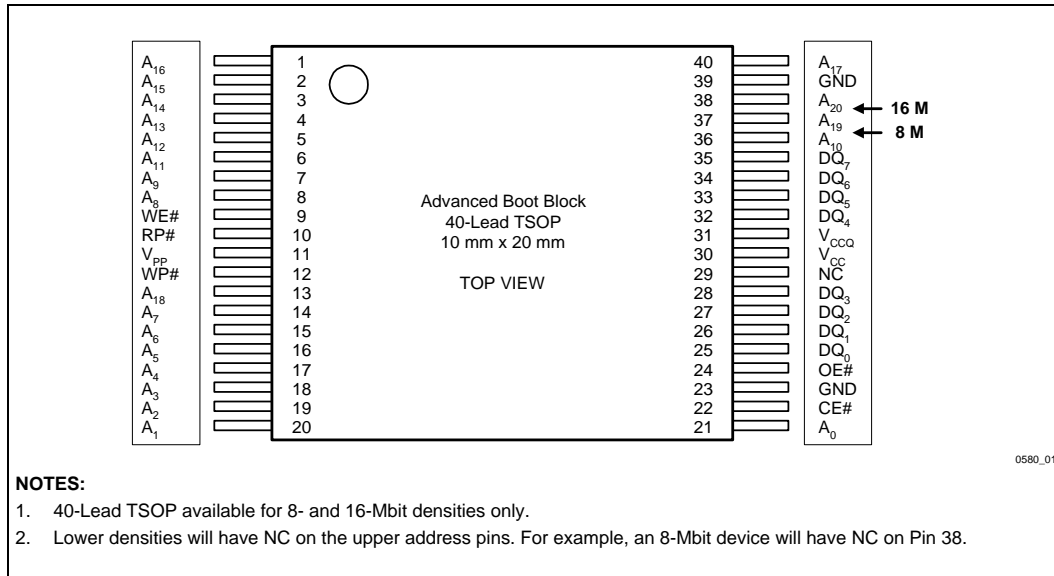
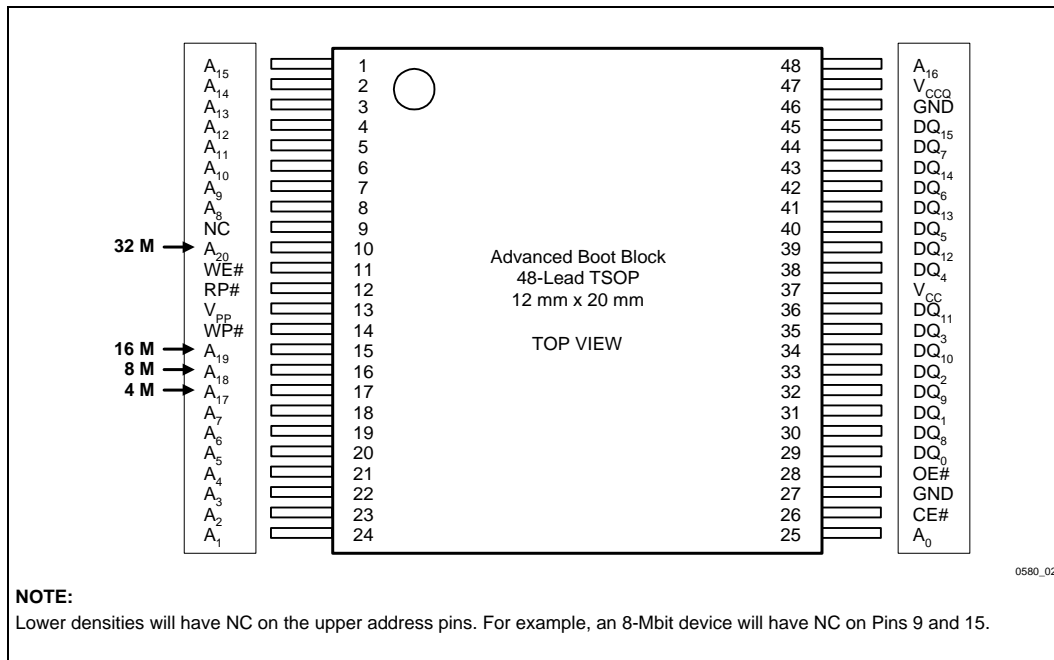
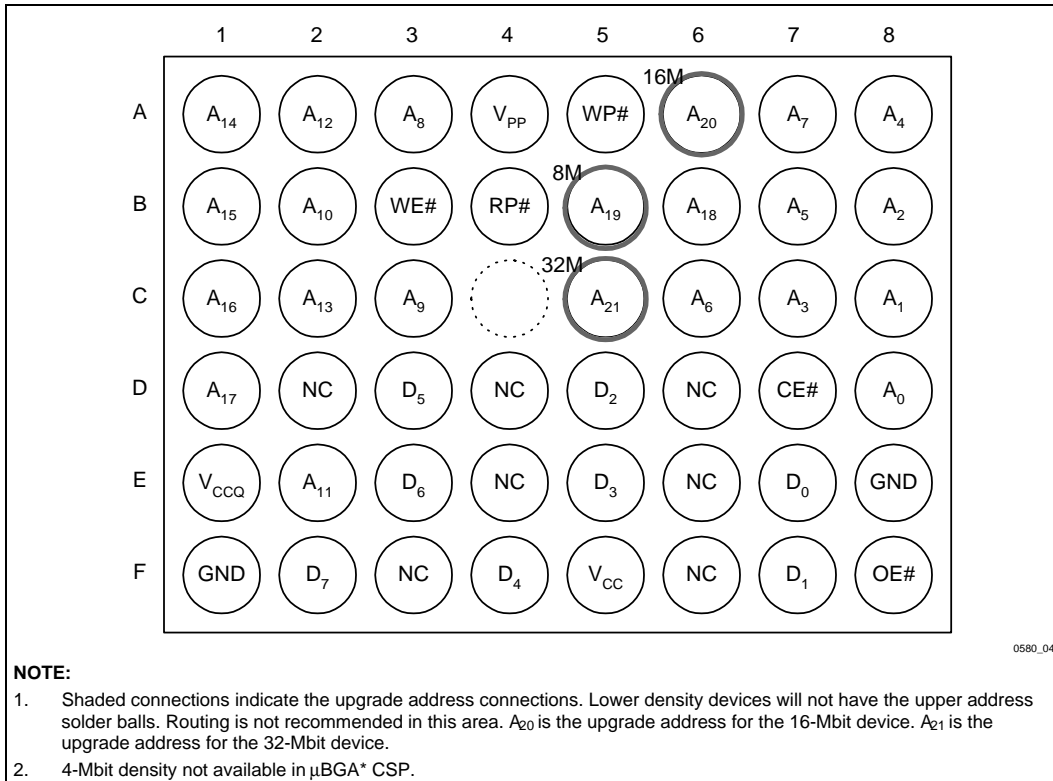
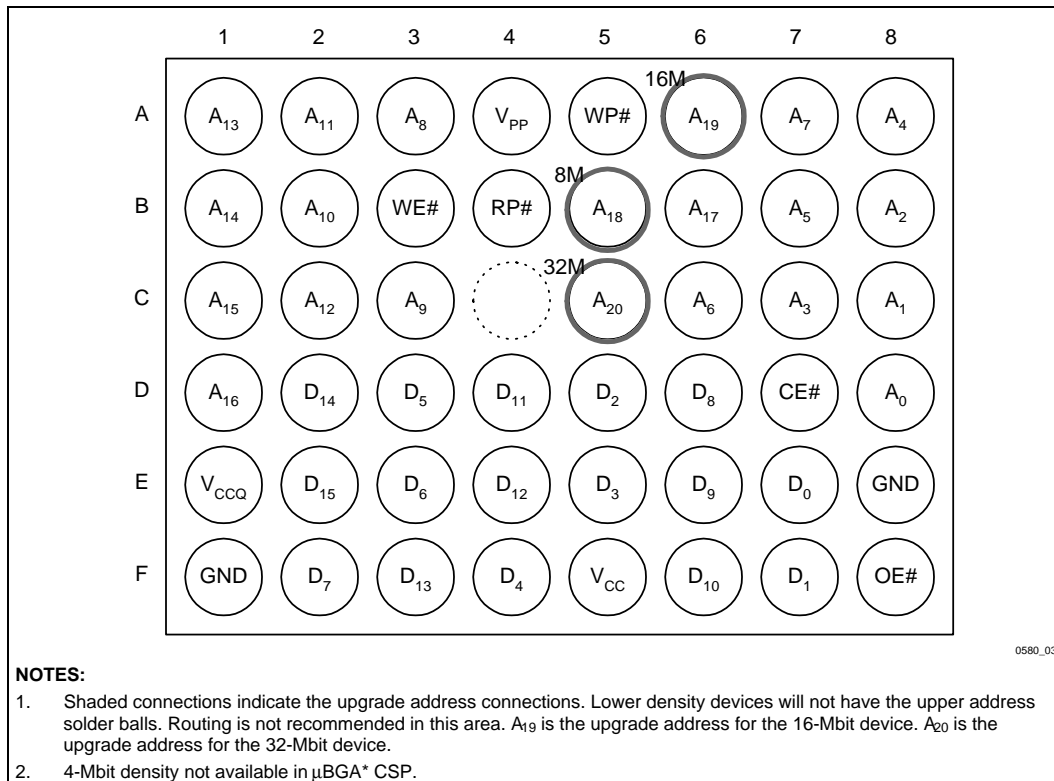

Figure 1. 40-Lead TSOP Package for x8 Configurations
Figure 2. 48-Lead TSOP Package for x16 Configurations
Figure 3. x8 48-Ball μBGA* Chip Size Package (Top View, Ball Down)
Figure 4. x16 48-Ball μ BGA* Chip Size Package (Top View, Ball Down)
-005	<p>μBGA package diagrams corrected (Figures 3 and 4)</p> <p>I_{PPD} test conditions corrected (Section 4.4)</p> <p>32-Mbit ordering information corrected (Section 6)</p> <p>μBGA package top side mark information added (Section 6)</p>
- V_{CCQ} input of 1.65 V–2.5 V on all I/Os. See Figures 1 through 4 for pinout diagrams and V_{CCQ} location
The Smart 3 Advanced Boot Block flash memory is available in 40-lead TSOP (x8, Figure 1), 48-lead TSOP (x16, Figure 2) and 48-ball μ BGA packages (x8 and x16, Figure 3 and Figure 4 respectively). In all figures, pin changes necessary for density upgrades have been circled.